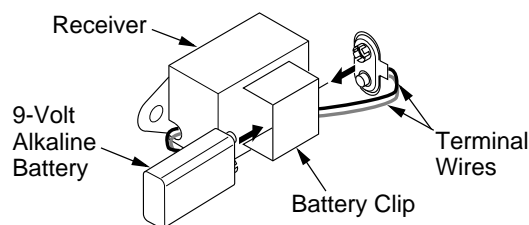

Figure 36 - Attaching Alkaline Battery to Receiver
3. Locate the battery clip mounted on the back of the receiver. Slide a 9-volt alkaline battery (not included) through the clip (see Figure 36).